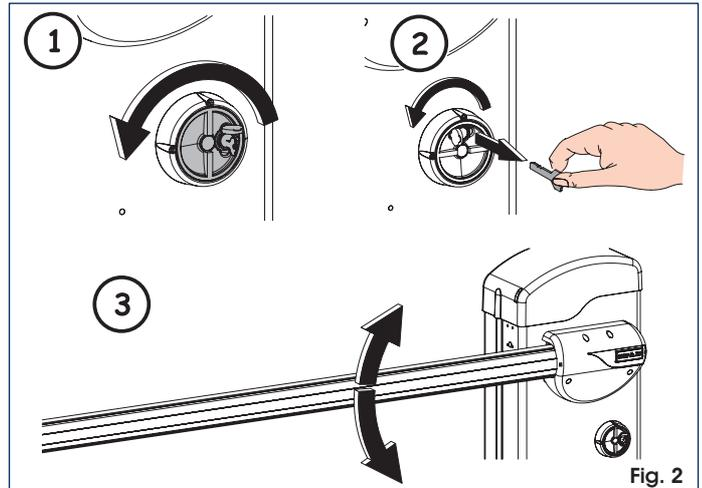

Fig. 2
- Turn the release device counter-clockwise until it stops, Fig. 2 ref. ①.
- Turn the key counter-clockwise until it stops and then remove it, fig. 2 ref. ②.
- Move the rod by hand until it stops, fig. 2 ref. ③.